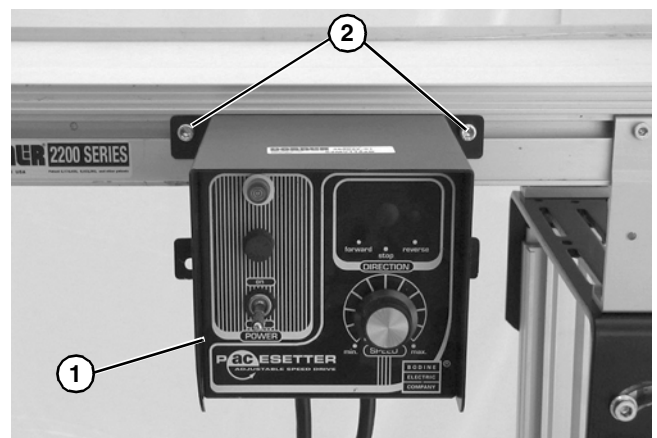

Figure 20
2. Install controller (Figure 20, item 1) with two socket head screws (Figure 20, item 2).